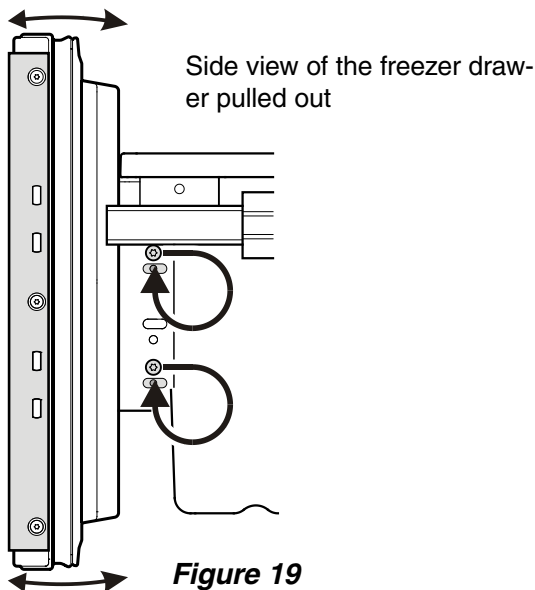

Figure 19
To prevent the appliance from tipping forward the leveling feet ① (Figure 19) must have contact with the floor.
## Adjusting the front of the drawer - Figure 19
- Figure 19